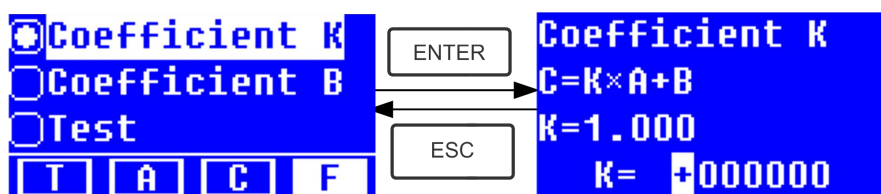

Fig. 4-18
- ★ Use Arrow Key to move the cursor on "Coefficient K" and press  to go into K setting interface. (Fig. 4-18); Input every bit of K by Arrow Key and press  to confirm. When the last bit finished, system will return the former Interface automatically.